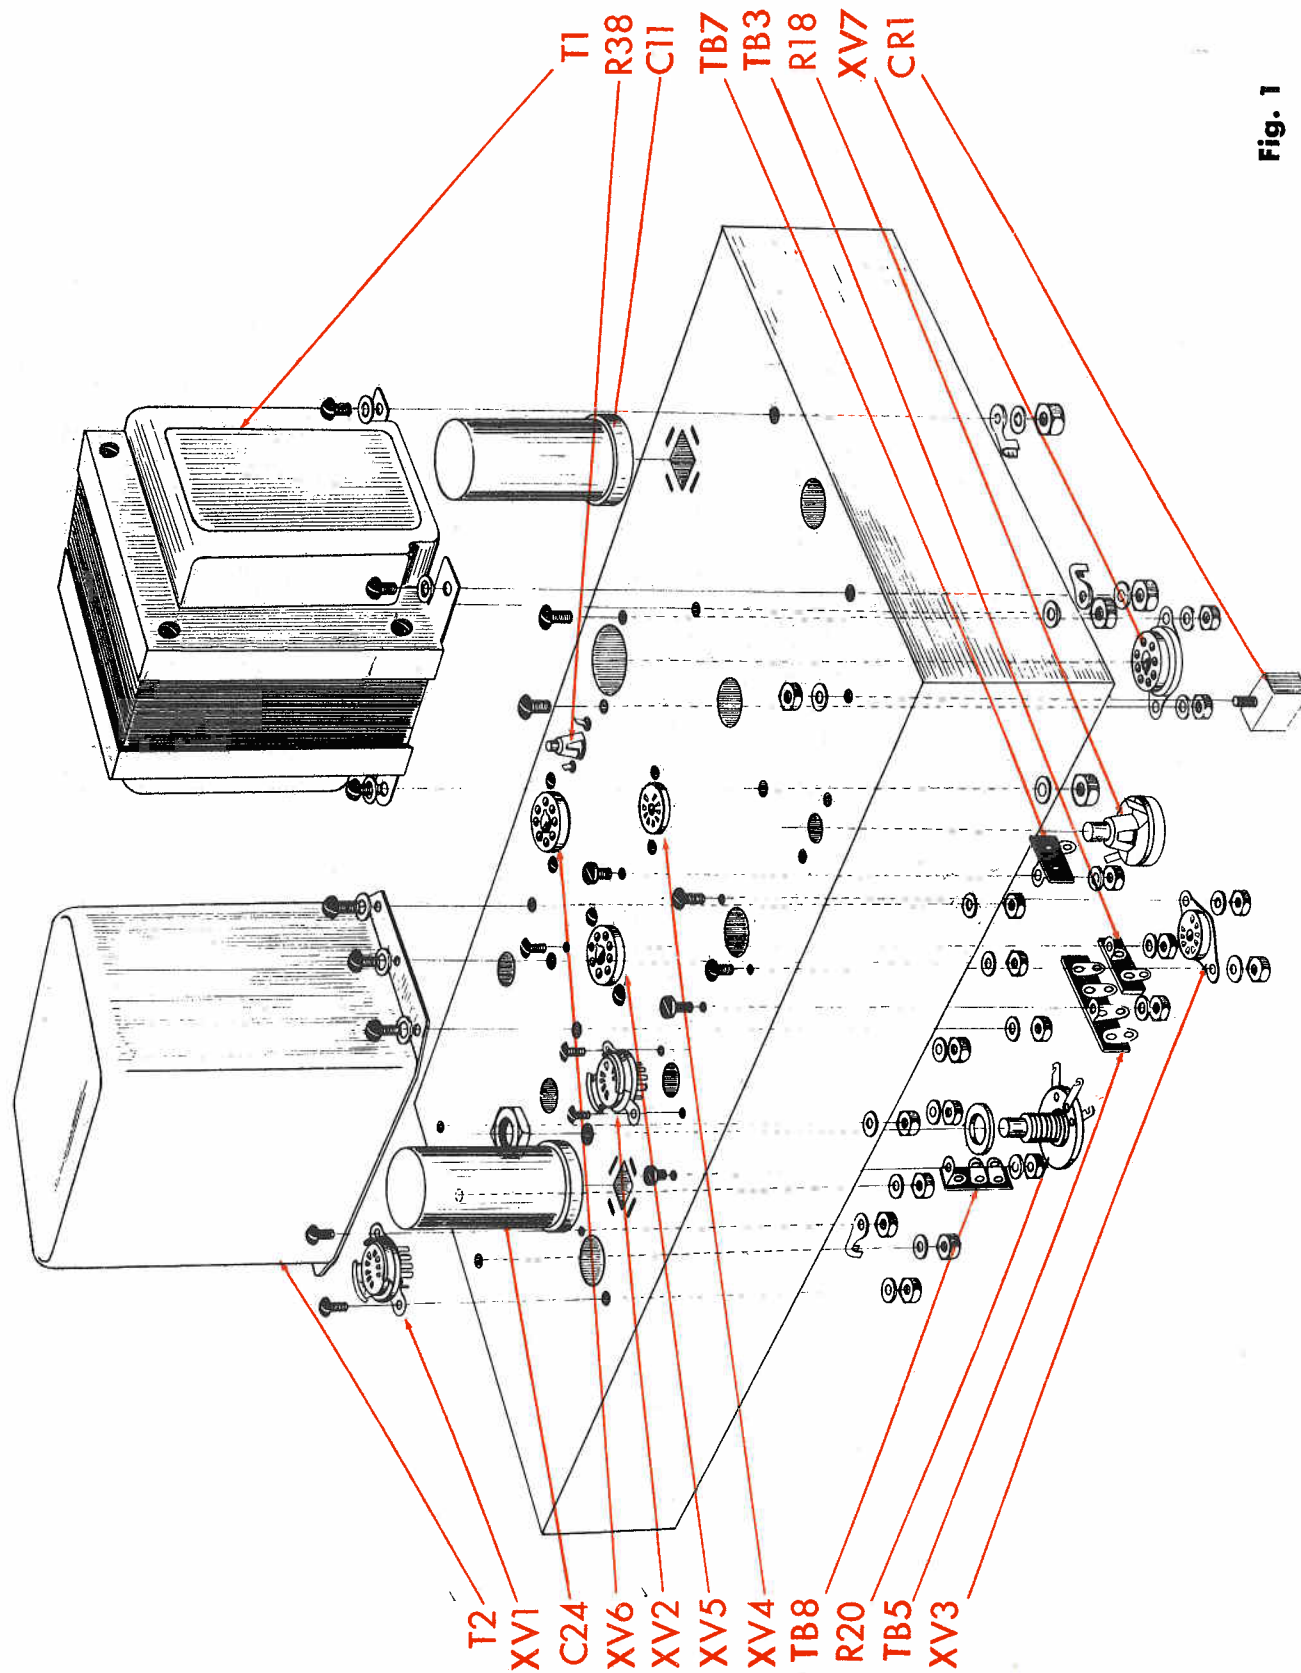

Fig. 1
1. (✓) Fig. 1. Mount 9 and 7 pin sockets with shield support, XV1 and XV2 respectively, as shown. Use two #4-40 screws and two #4 hex nuts on each. Use two #4 lockwashers on XV2. Use one #4 lockwasher and one #4 ground lug on XV1.
2. (✓) Fig. 1. Mount socket XV3 and XV4 as shown. Use two #4-40 screws, two #4 lockwashers and two #4 hex nuts on each.
3. (✓) Fig. 1. Mount sockets XV5, XV6 and XV7 as shown. Use two #6-32 X 1/4 screws, two #6 lockwashers and two #6 hex nuts on each.
4. (✓) Fig. 1. Press 10K $\Omega$  pot, R18 and 50K $\Omega$  pot, R38 through holes in chassis, noting direction in Fig. 4. Press pots firmly toward chassis until a click is heard.
5. (✓) Fig. 1. Mount open 100 $\Omega$  pot., R20 as shown. Use 3/8" lockwasher and a 3/8" hex nut.
6. (✓) Fig. 1. Mount the 50ma rectifier, CR1, near 10K $\Omega$  snap in pot, R18. Note CR1 orientation so that the positive (+) side is located toward the front of the chassis. Use one #6 nut and one #6 lockwasher for mounting.
7. (✓) Fig. 1. Mount the output transformer, T2, as shown; oriented so that the leads emerge from the holes. Use six each of the following: #10-24 X 3/8 screws, #10 flat washers, #10 lockwashers, and #10 hex nuts. Add cable clamp under one of the nuts and pull the four wires emerging from the hole near the rear of the chassis through this clamp. See Fig. 4.
8. (✓) Fig. 1. Mount the power transformer, T1, as shown; oriented so that the two black, two green and one yellow leads are near the side of the chassis.
9. (✓) Fig. 1. Mount the 40-20mfd electrolytic condenser, C11, near the power transformer. Note position of capacitor terminals on Fig. 4. The mounting taps are inserted into the slots provided on the chassis and twisted somewhat less than a quarter turn. DO NOT twist the tabs excessively or they will shear off. Solder one mounting tab to chassis ground.
10. (✓) Fig. 1. Similarly, mount and solder the 20-20-10-10mfd electrolytic capacitor, C24, between V1 and V2. Note position of capacitor terminals on Fig. 4.
11. (✓) Fig. 1 & Fig. 4. Mount one post right terminal strip, TB3, as shown on Fig. 4. Use one each #6-32 X 1/4 screws, #6 hex nut, and #6 lockwasher.
12. (✓) Fig. 1 & Fig. 4. Similarly, mount three post-two left with ground terminal strip, TB5, as shown on Fig. 4.
13. (✓) Fig. 1 & Fig. 4. Similarly, mount one post right terminal strip, TB7, as shown on Fig. 4.
14. (✓) Fig. 1 & Fig. 4. Similarly, mount two post upright terminal strip, TB8, as shown on Fig. 4.